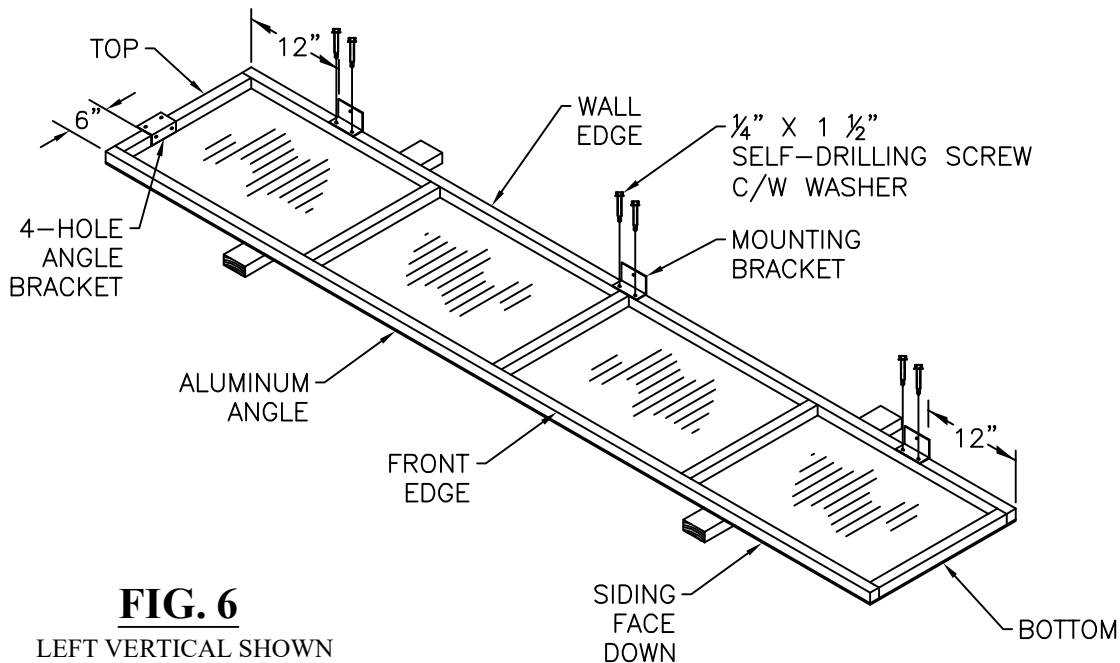

FIG. 6
- b. **Position Mounting Brackets** on Wall Edge of Vertical Frame (**Figure 6**).
- Use three (3) 3-hole Mounting Brackets per Vertical Frame.
- d. **Position 4-hole Angle Bracket on Vertical frame (Figure 6).**